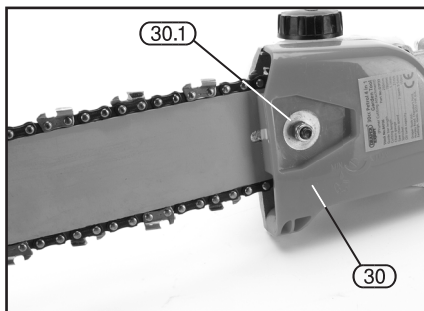

FIG. 4
9.1 FITTING AND REMOVING THE CHAIN AND GUIDE BAR - FIGS.4 - 6
- With the engine stopped and the 10mm nut (30.1) (Fig.4) finger tight, hold the tip of the bar up.